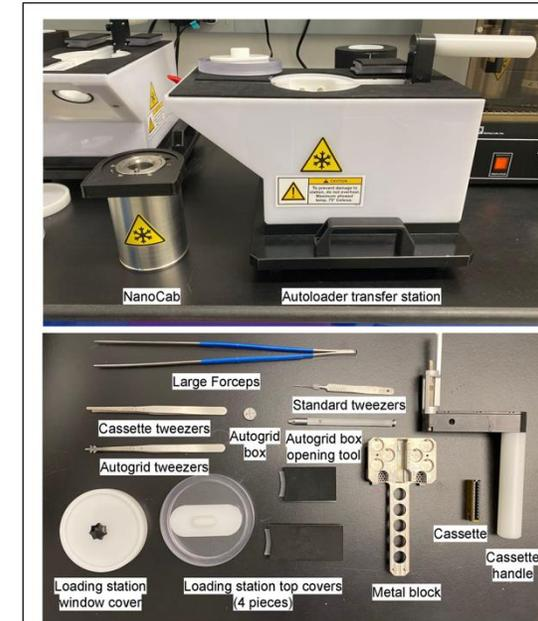

Figure 1. Autoloader transfer station and tools, labeled.
- 2.5. Definition of terms for tools/equipment can be found in Figure 1.
Figure 1. NCCAT dehumidified room bench. A) Two ovens are used to dry and store NanoCabs and empty cassettes. B) Two loading stations are kept on the left end of the bench.